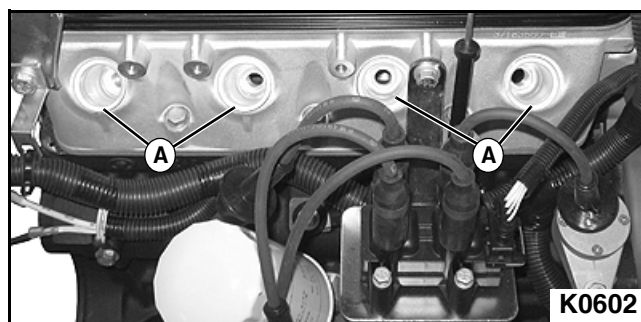

Figure 3-28
1. Install spark plug tubes (A) to cylinder head. See Figure 3-28.